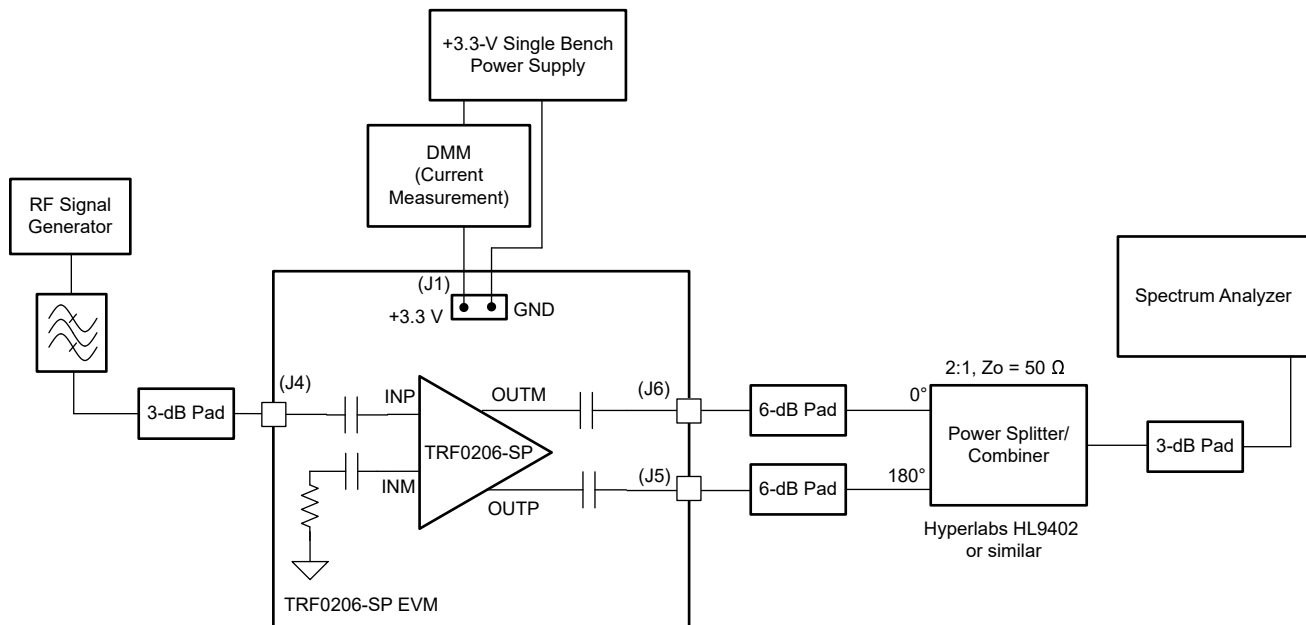

Figure 1-1. Single Tone Setup for Gain and Output P1dB
This section provides general usage information for the TRF0206-SP EVM. Figure 1-1 shows a general single tone setup diagram as a reference point for the following instructions (some components, such as supply bypass capacitors, are omitted for clarity):
As shown in Figure 1-1, use an RF band pass filter when measuring single tone distortion.
- e. When connecting to a spectrum analyzer, the differential signal out of the EVM should be converted to a single-ended signal using an external passive balun as shown in Figure 1-1.